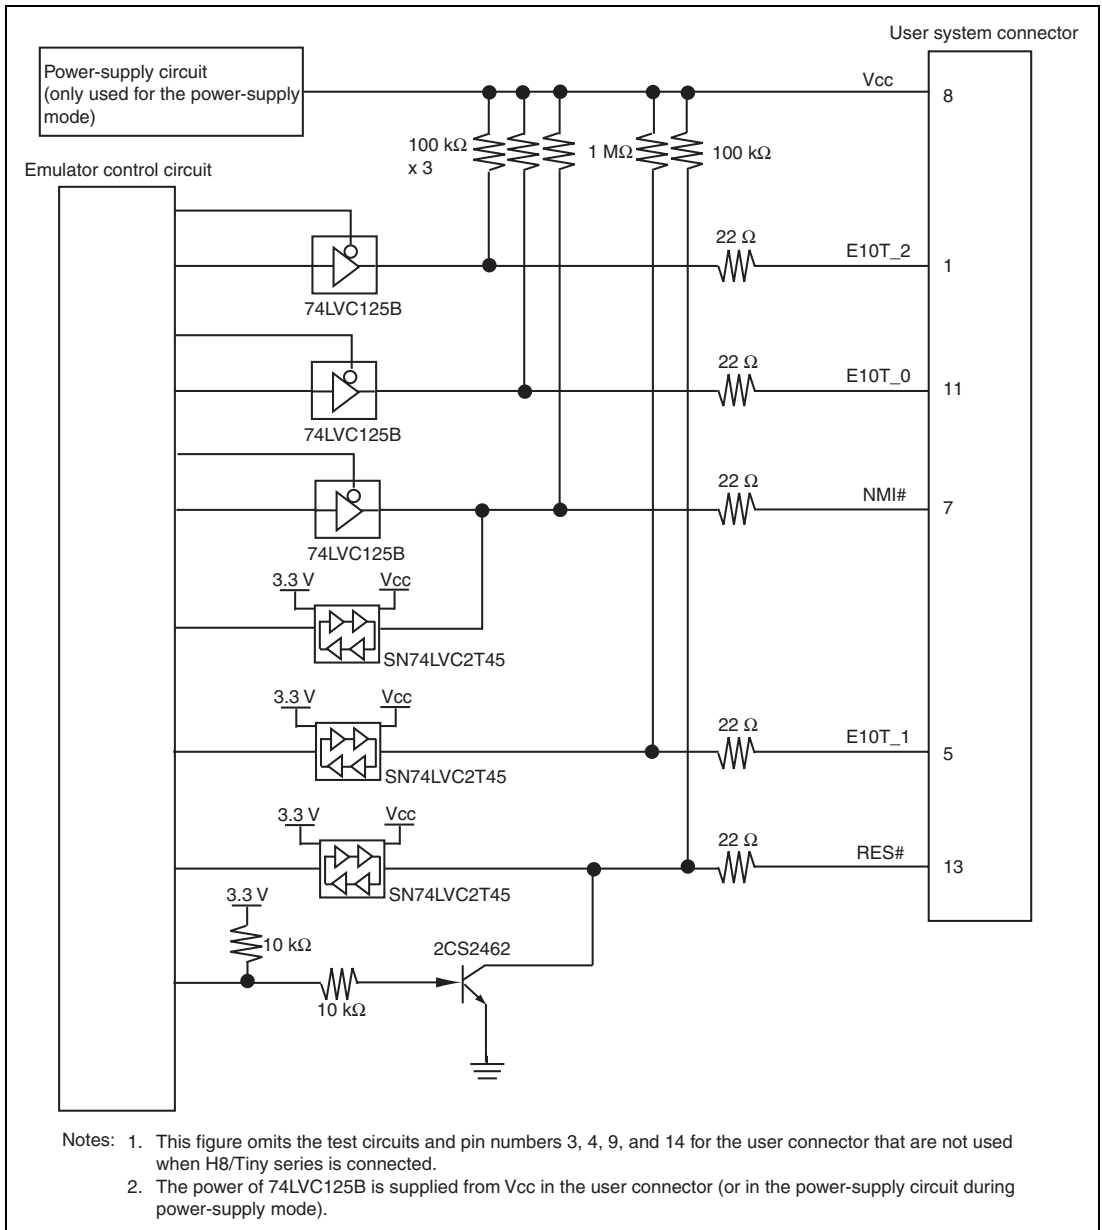

Figure 4.5 Interface Circuit in the E8a Emulator (Reference)
- Figure 4.5 shows the interface circuit in the E8a emulator. Use this figure as a reference when determining the pull-up resistance value.